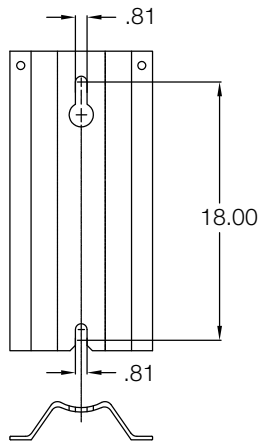

Figure 2. Pole-mounting bracket
7. Check for proper wiring of the capacitor units. Refer to Figure 2
12. Optionally, a thermal scan may be performed on all electrical connections to check for overheated electrical joints. The thermal scan must be performed after a minimum of two (2) hours of continuous energization. Pay particular attention to the capacitor terminal temperatures.